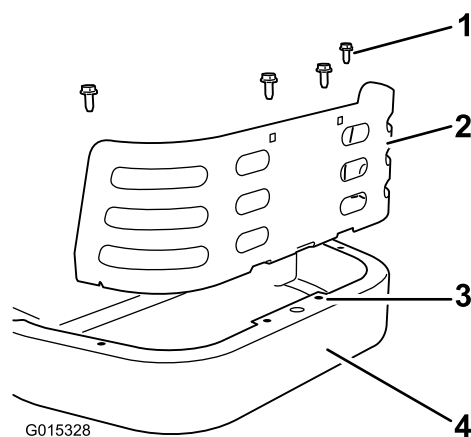

Figure 10
1. Install the rear guard to the frame behind the engine (Figure 10). Align the holes in the tabs on the guard with the existing holes in the rear frame.
2. Secure the guard to the frame with four self tapping screws (5/16 x 3/4 inch) as shown in Figure 10.